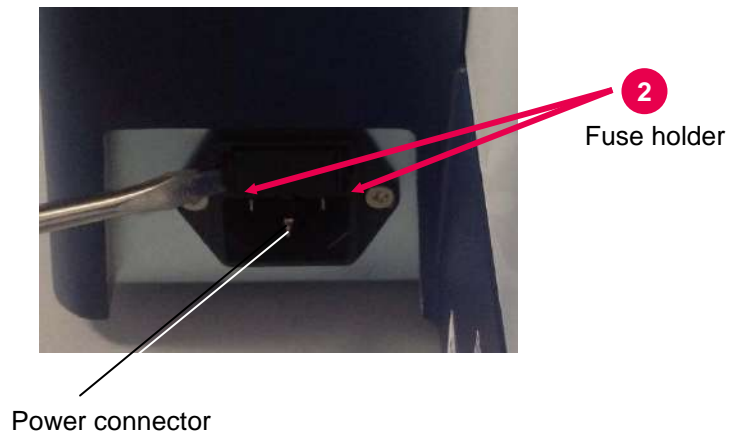

Fig. 7-15 Removing Fuse Holder
- (2) The fuse holder is located above the power connector on the back of the spectrophotometer. Push one side of the fuse holder screw (See Fig. 7-15 (2)) by using a flat-blade screwdriver. Then, the fuse holder pops out a little. Next, push the other side of the screw in a similar manner. Then, the entire holder pops out a little. Pull out the fuse holder by hand.